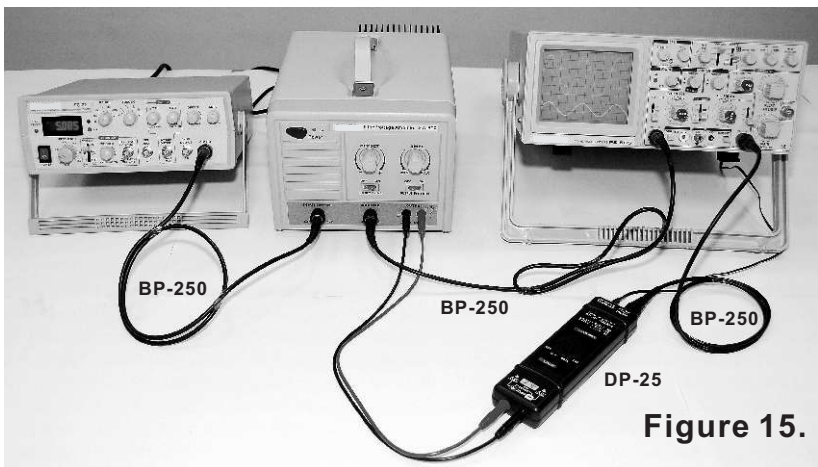

Figure 15.
5.3 Use Function Generator as input, to observe the HA-800 Monitor and Output, and the real output situation from oscilloscope. (Figure 15.)